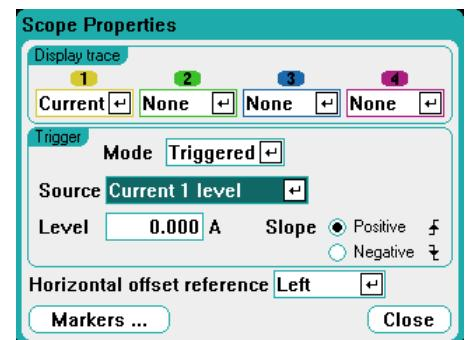

Figure 6 – Scope Properties
3. Press the “Properties” key to bring up the “Scope Properties” screen (see Figure 6).
- a. Set Display trace for (1) to “Current” by using the arrow keys to highlight the drop down box, press “Enter”, choose “Current” then press “Enter” again.